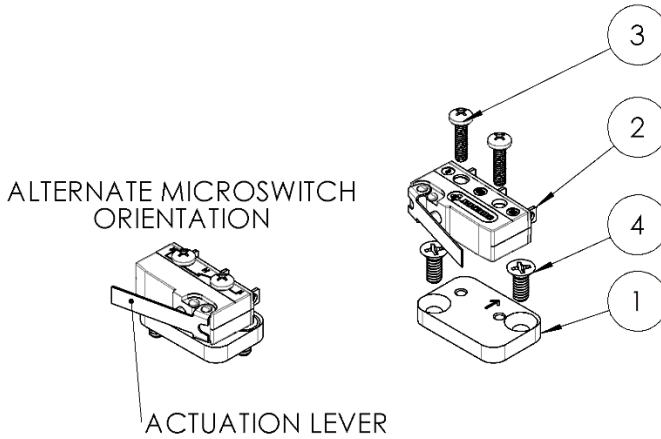
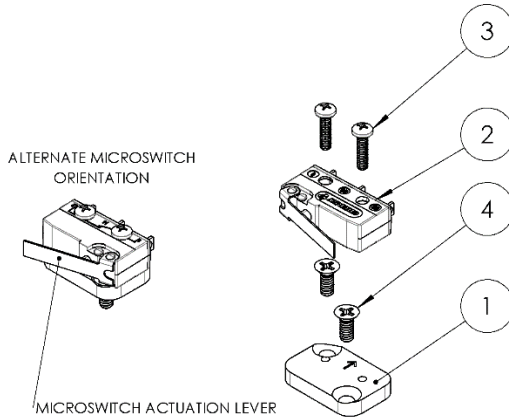
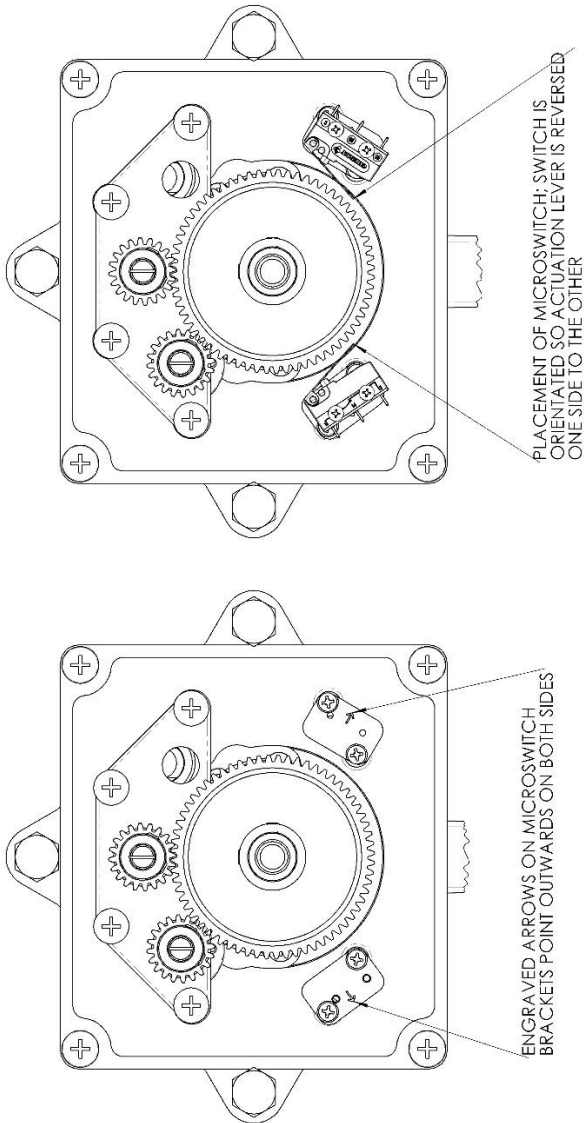

Figure 10: Microswitch retrofit kit, 7174-RF-01
Figure 11: Microswitch retrofit kit, 7170-RF-01
Figure 13: Placement of microswitch and microswitch bracket, 7163-B shown.
NOTICE	<p>Before removing old microswitches, please ensure you have one retrofit kit for each side that has a microswitch being replaced. Review Figure 10-Figure 11 and Table 6-Table 7 and compare to your retrofit kits to ensure the correct quantities of components are present.</p>
Depictions and BOMs for the two retrofit kits are shown in Figure 10-Figure 11 and Table 6-Table 7 respectively. The only difference between these kits is the microswitch bracket part number. Installation of the kits is identical.
4. Refer to Figure 13 and note the engraved arrow on the microswitch bracket ① is facing outwards on both sides of RFU.
5. Apply Loctite 242(Blue) to X2 Flat head screws ④.
6. Install bracket ① with screws ④ into the RFU cover plate, 7163-0002, ensuring the engraved arrow is correctly orientated.
7. Refer to Figure 13 and note the orientation of the microswitch ② for the side of the RFU that the microswitch is being replaced on.
8. Place the microswitch ② on top of the bracket ① orientating the microswitch so the actuation lever is as shown in Figure 13. For reference, the actuation lever is pointed to in Figure 10 and Figure 11.
9. Apply Loctite 242(Blue) to X2 pan head screws ③.
10. Use X2 screws ③ and tighten to secure the microswitch ②.